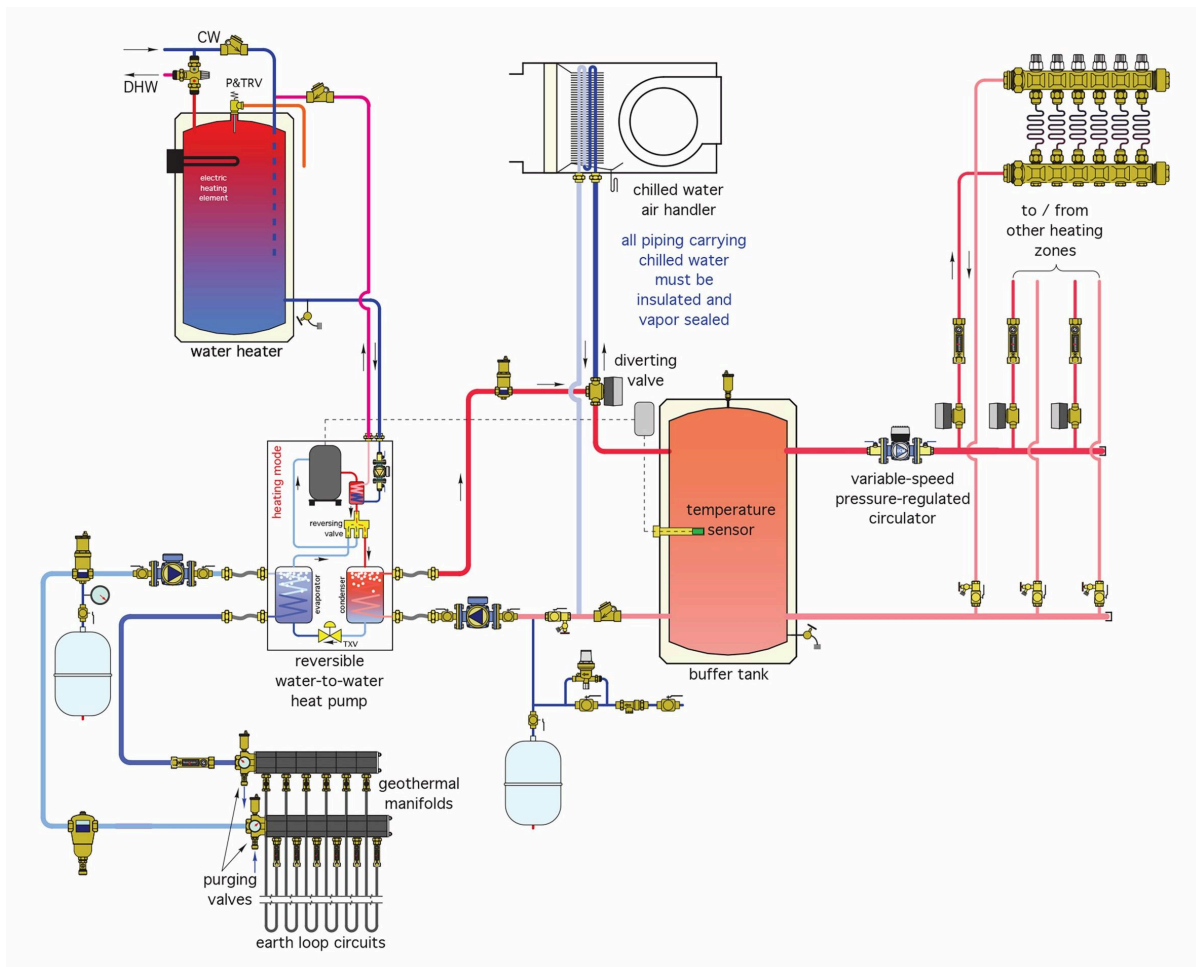

Figure 4 A water-to-water reversible heat pump with domestic hot water generation
- Figure 4 Four pipes in trench © Caleffi Hydronic Solutions (<https://www.caleffi.com/usa/en-us>). Used with permission.
Figure 4 below is an example of a system that is fairly elaborate, in that it has captured all the aforementioned aspects of the use of reversible water-to-water (geothermal) heat pumps into one system.